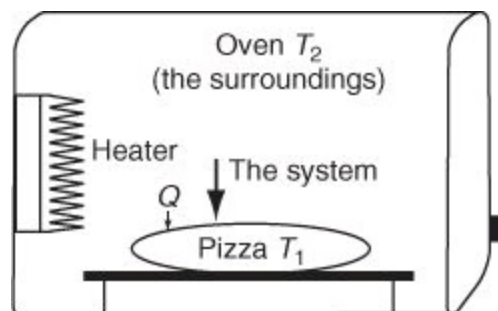

Figure 9.5. Heat transfer is energy that crosses the system boundary because of a temperature difference.
In a discussion of heat we enter an area in which our everyday use of the term may cause confusion, because we are going to use heat in a very restricted sense when we apply the laws governing energy changes. **Heat (Q)** is commonly defined as that part of the total energy flow across a system boundary that is caused by a temperature difference (potential) between the system and the surroundings (or between two systems). See Figure 9.5. Engineers say “heat” when meaning “heat transfer” or “heat flow.” Because heat is based on the transfer of energy, heat cannot be stored. **Heat is positive when transferred to the system and negative when removed from the system.** Heat is a path variable.